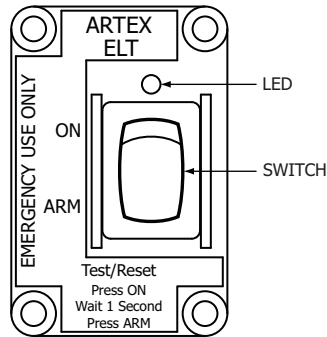

Figure 3 Remote Switch Front View
- (2) The cockpit-mounted remote switch assembly is comprised of an ELT status LED and control switch, and allows an operator to manually turn the ELT on (i.e., activate) for testing and reset (i.e., deactivate) the ELT. See Figure 3 Remote Switch Front View.